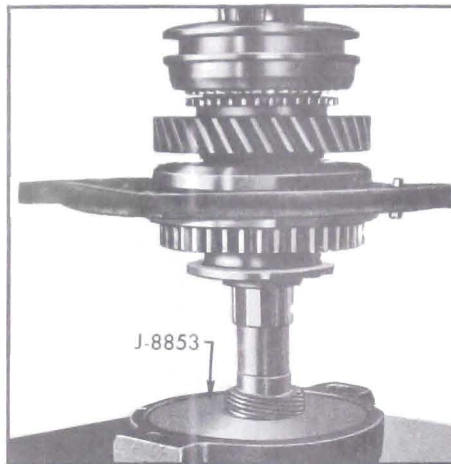
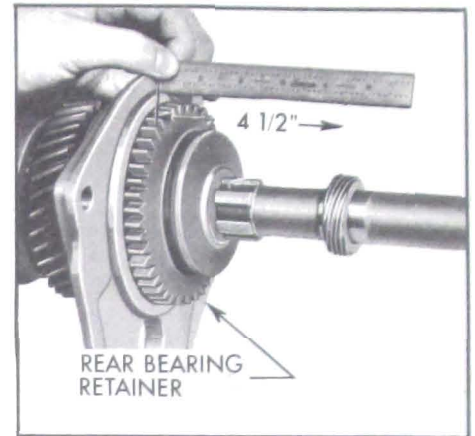

Figure 4-35—Installing Speedometer Drive Gear
Figure 4-36—Measuring Speedometer Drive Gear
13. Press speedometer drive gear onto the mainshaft, using a J-8853, press plate. (See Figure 4-35). Position the speedometer gear to get a measurement of 4-1/2" from the center of the gear to the flat surface of the rear bearing retainer. (See Figure 4-36).